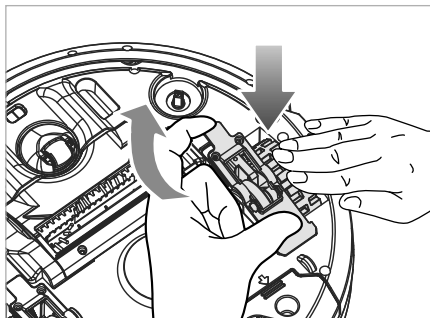

Fig. 20
- 2) Press the wheel **20/34** down and release the spring from the wheel cover **19/35** and from the wheel holder. Remove the wheel cover **19/35** from the appliance (see Fig. 20).